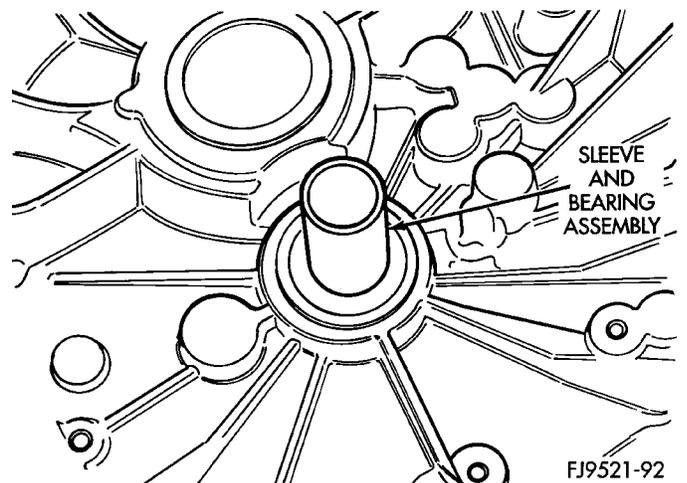

**Fig. 128 Input Bearing Removal**
(2) Press the input bearing out of the housing (Fig. 128).